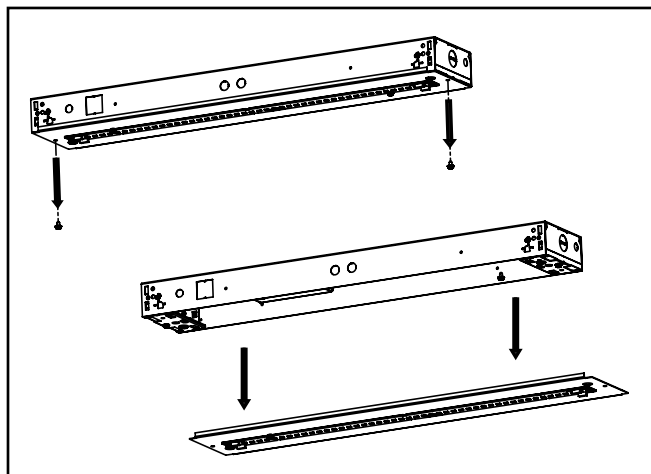

Figure 2.
3. Remove channel cover from fixture assembly by removing mounting screws from both ends of the channel cover (Figure 2). After removing, DO NOT set down with LEDs on channel cover.